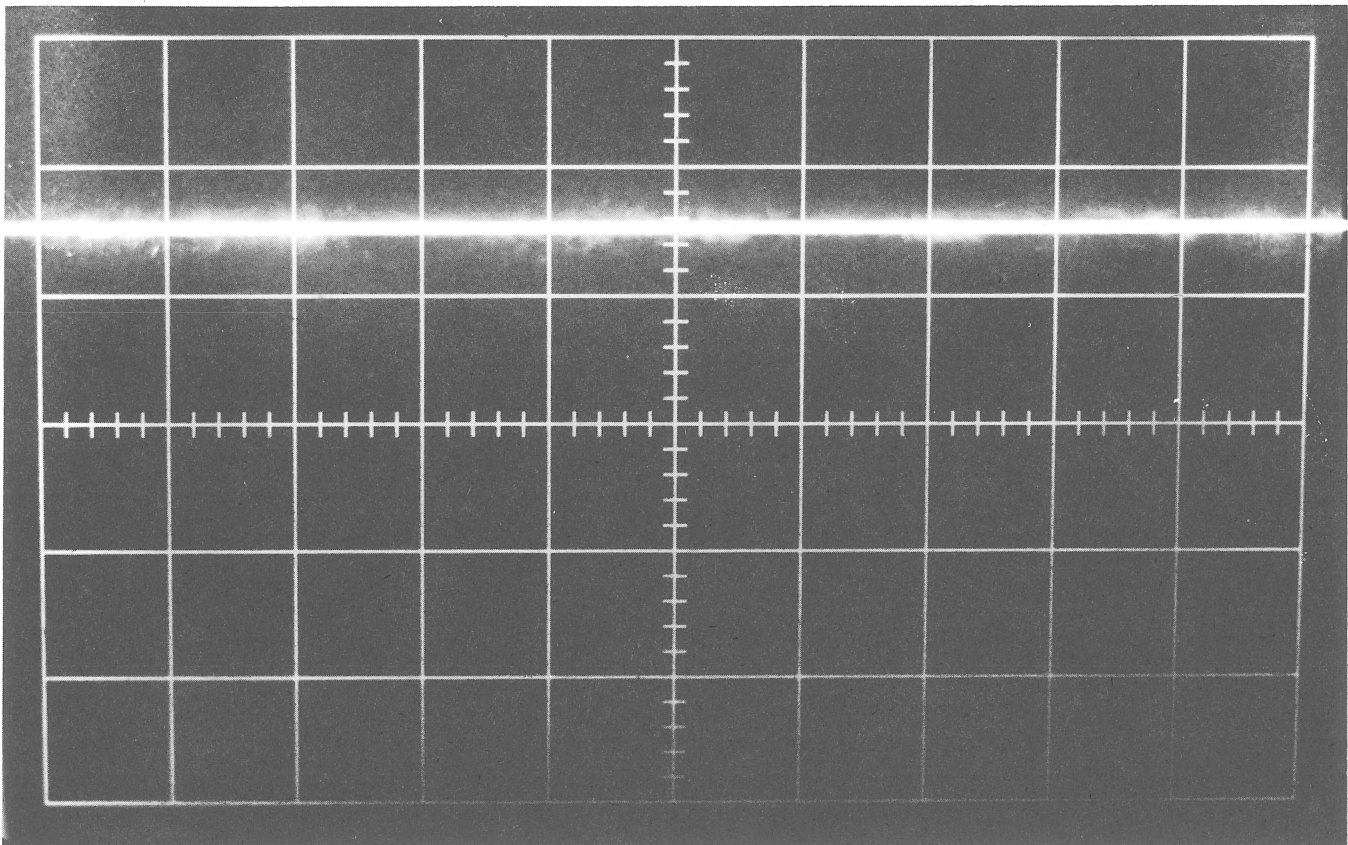

Figure 1 Ground Reference
2.2.2 Set Up - Set the oscilloscope to ALT MODE and set the GAIN of both traces to 1 V/cm. With the input signals grounded, position the traces 1.5 cm above the center line of the grid. (The negative input signals should cross the center line of the Scope Grid (SG) when they are -1.5V.) All times are measured along the center line of the SG (see Figure 1).